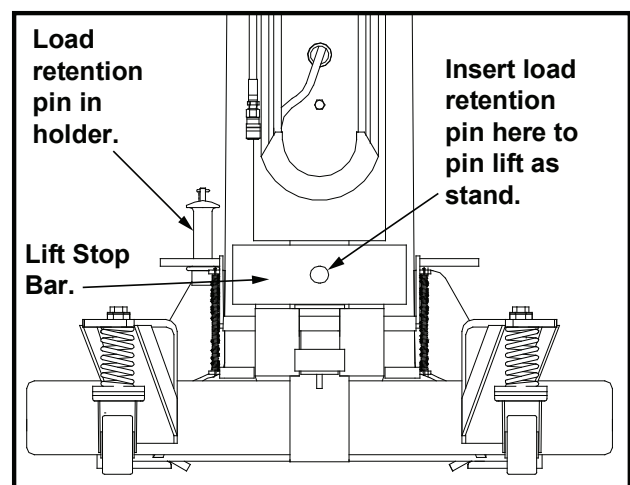

Figure 7
3. On both lifts, remove the load retention pin from its holder and insert it through the oblong hole in the lift stop bar and fully into the corresponding hole in the downstop lug (see Figure 7) to pin the lifts as stands.